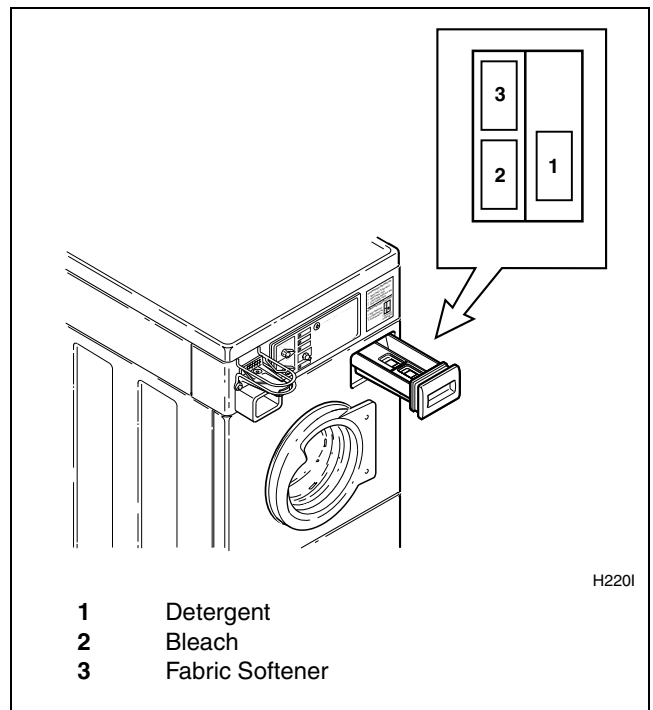

Figure 21
Open dispenser drawer. Measure and add low sudsing detergent (1), bleach (2) and fabric softener (3) to the dispenser drawer (refer to *Figure 21*). Close dispenser drawer.